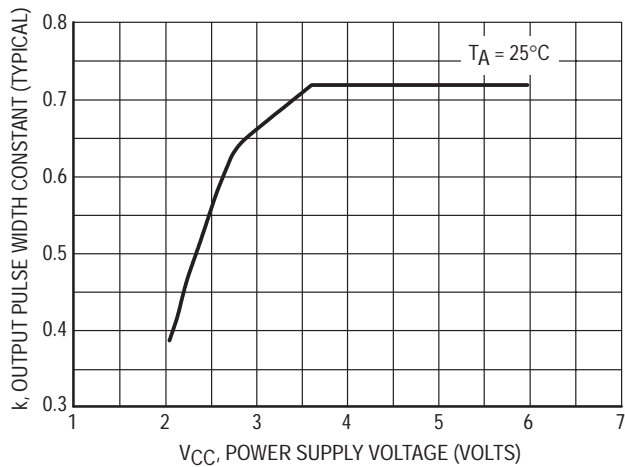

Figure 1. Typical Output Pulse Width Constant, k, versus Supply Voltage
*For output pulse widths greater than 100 μs , typically $\tau = kR_X C_X$, where the value of k may be found in Figure 1.